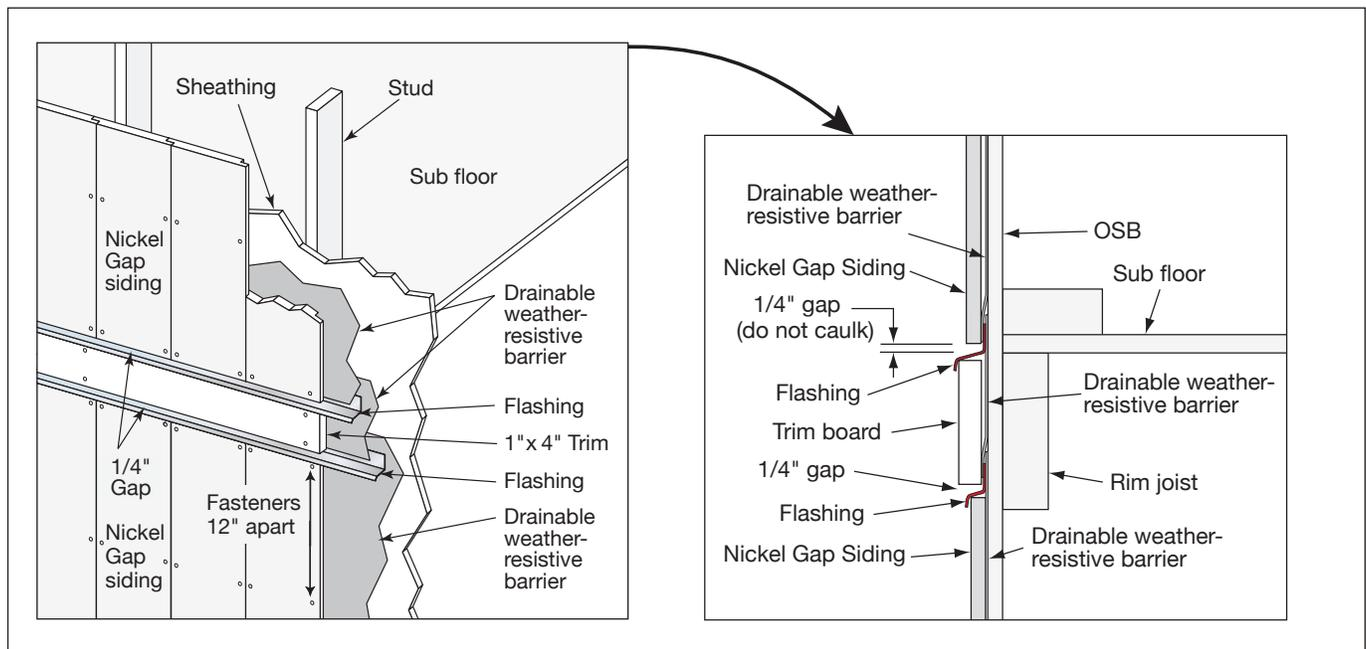

Fig. 23
- Decorative band board trim can be installed using 2 methods (**Fig.23 & 24**)